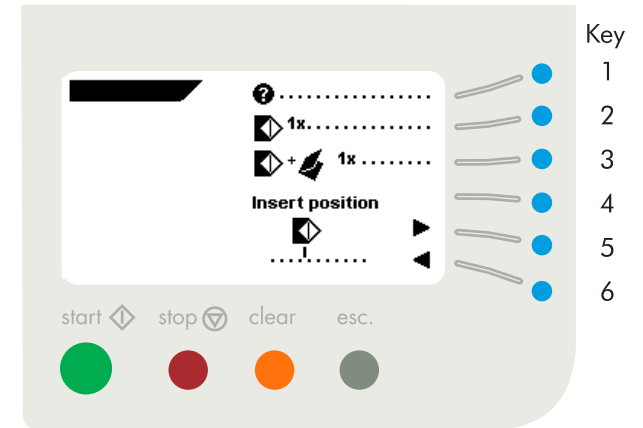

Fig. 25
After pressing key 5 in the "main menu (1)", the AutoSet™ menu is displayed (fig. 25). The AutoSet™ function can be used for creating simple jobs. The machine automatically selects the document hoppers and recognizes the document size, envelope size and necessary fold settings.
Press key 3 to start a testset run (fig. 25). The settings of the testset run will be saved. The machine prepares a job 0 which is named AutoSet™.